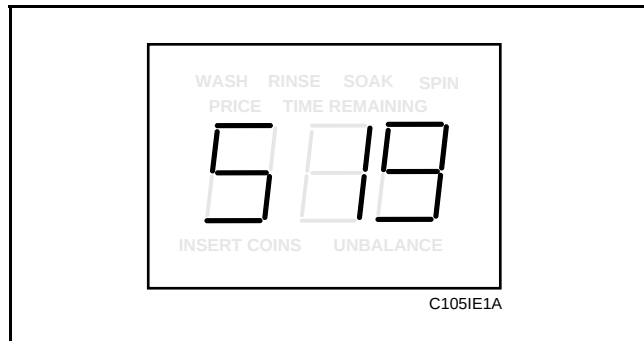

Figure 64
2. While pressing and holding the PERM PRESS keypad with one hand, press the COLD keypad with the other hand. Programmable option number one, “Slg”, will appear in the VFD. See **Figure 64**.